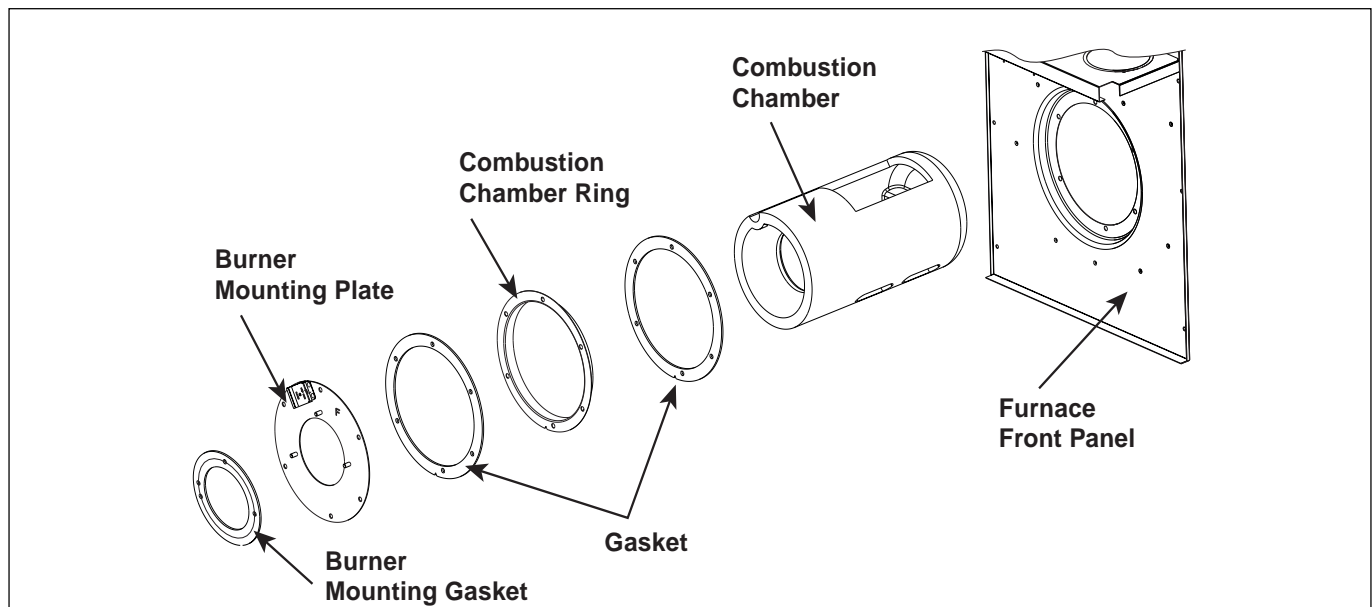

Figure 1.
Note: Before installing the new burner into the furnace, determine the date of manufacturing by examining the serial number on the rating plate of the furnace. The serial number will look like M1*9810****. The fourth through seventh digits represent the date code of the furnace. In the above example, 9810 represents October 1998. If the date code on the furnace is prior to 9811, then a ceramic combustion chamber (part #903423), which is shown in Figure 1, must be added to the furnace, if not already present. If a ceramic combustion chamber is added to the furnace, then the main-air limit must be replaced with another main air limit (part #626469). Note that these items are not included in this kit and must be ordered separately. To install these items follow the instructions below.
- A. Remove the burner mounting plate by removing the fasteners that hold the plate to the furnace. See Figure 1.
- D. Re-install the combustion chamber ring and the burner mounting parts as shown in Figure 1. Ensure that the gaskets (provided in the combustion chamber kit) are properly positioned as shown in the figure.